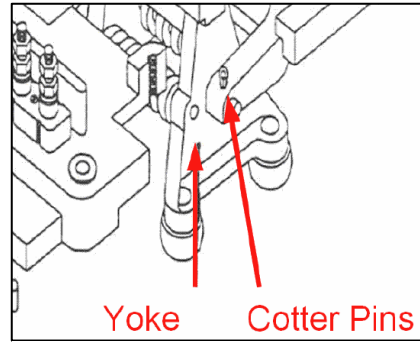

Figure 20 – Cotter Pins
- 16.6 Check the Cotter/Split pins holding the Yoke have not broken, see Figure 20.